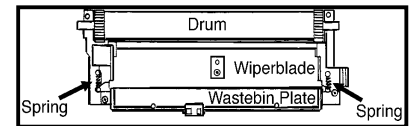

Figure 2
4. Remove the springs (2) from the wiperblade and the center screw (Fig 2). (Note: Under the screw is a plate which needs to go on the same way that it was removed.) Remove the wiperblade, clean and lubricate.